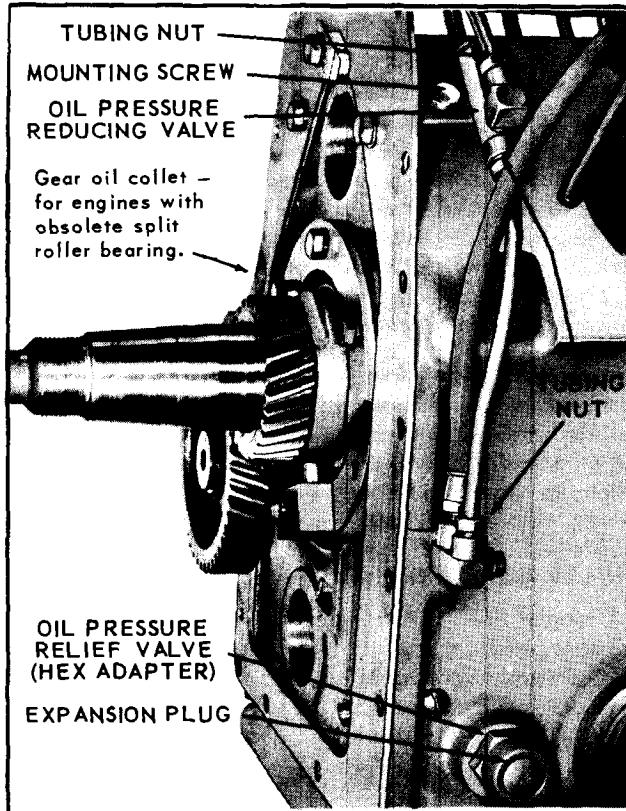
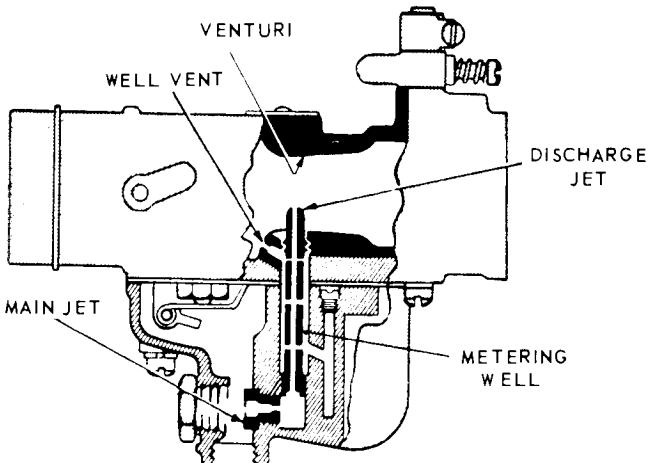

Fig. 50
Fig. 3 HIGH SPEED SYSTEM
### OIL PRESSURE RELIEF VALVE (Fig. 3, Fig. 50)
If it becomes necessary to remove the oil pressure relief valve, illustrated in Fig. 50, either for cleaning or replacement; first unscrew hex adapter and remove expansion plug from adapter. With a 3/16 inch Allen wrench, remove outer adjustment lock螺丝, see Fig. 3. Insert a 1/4 inch rod into the cross hole in valve body and turn counter-clockwise for removal. **Do not** use a pipe wrench or pliers to remove valve body.
#### OIL PRESSURE REDUCING VALVE (Fig. 50)
**HIGH SPEED SYSTEM (Fig. 3)**